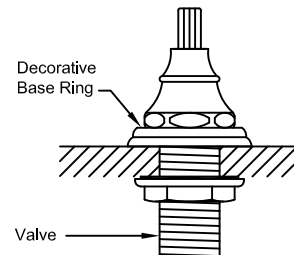

Fig. 4B
- NOTE for Series 32, 33, 34, 35, 36, 43, 57, 60, 61, 62, 65, 66, 67, 68, 69, 71, 72 & 73 (see Fig. 4B):**